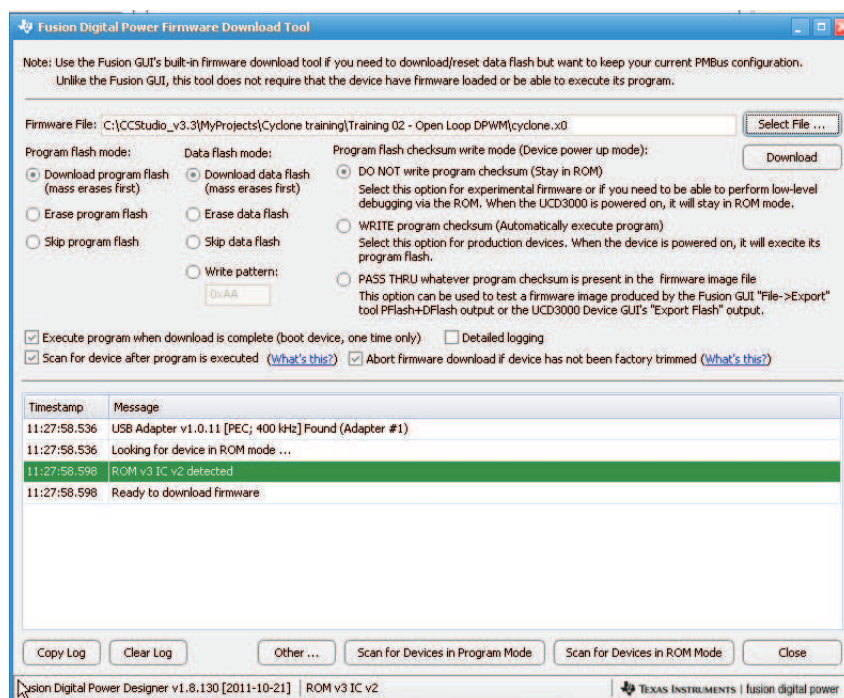

Figure 7. Firmware Code Downloading
4. Click *Firmware Download* and a new window appears as shown in Figure 7. Click *Select File* and browse an intended firmware code file with file extension .x0, for example, *cyclone.x0*. Then click *Download*. TI recommends not writing the program *checksum* (stay in ROM) during firmware development or debug state. The firmware of *cyclone.x0* downloads to the device UCD3138 on the board of UCD3138CC64EVM-030. When asked, click yes to complete the download. Click *Close* to exit the download window.